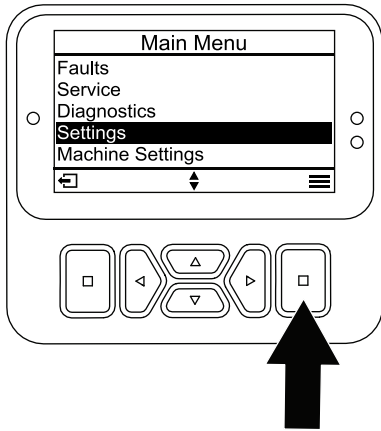

Figure 21
- From the MAIN MENU, scroll down to the SETTINGS menu and press the select button (Figure 21).